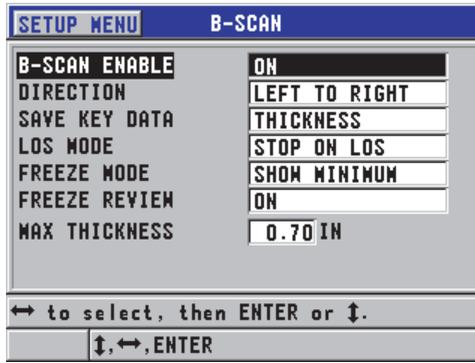

Figure 9-4 Changing B-scan parameters
The B-scan can be actively configured from the **B-SCAN** screen (see Figure 9-4 on page 148), which is accessible by pressing [SETUP], and then selecting **B-SCAN** in the menu.
1. In the **B-SCAN** screen (see Figure 9-4 on page 148), set **SAVE KEY DATA** to **THK + B-SCAN**.